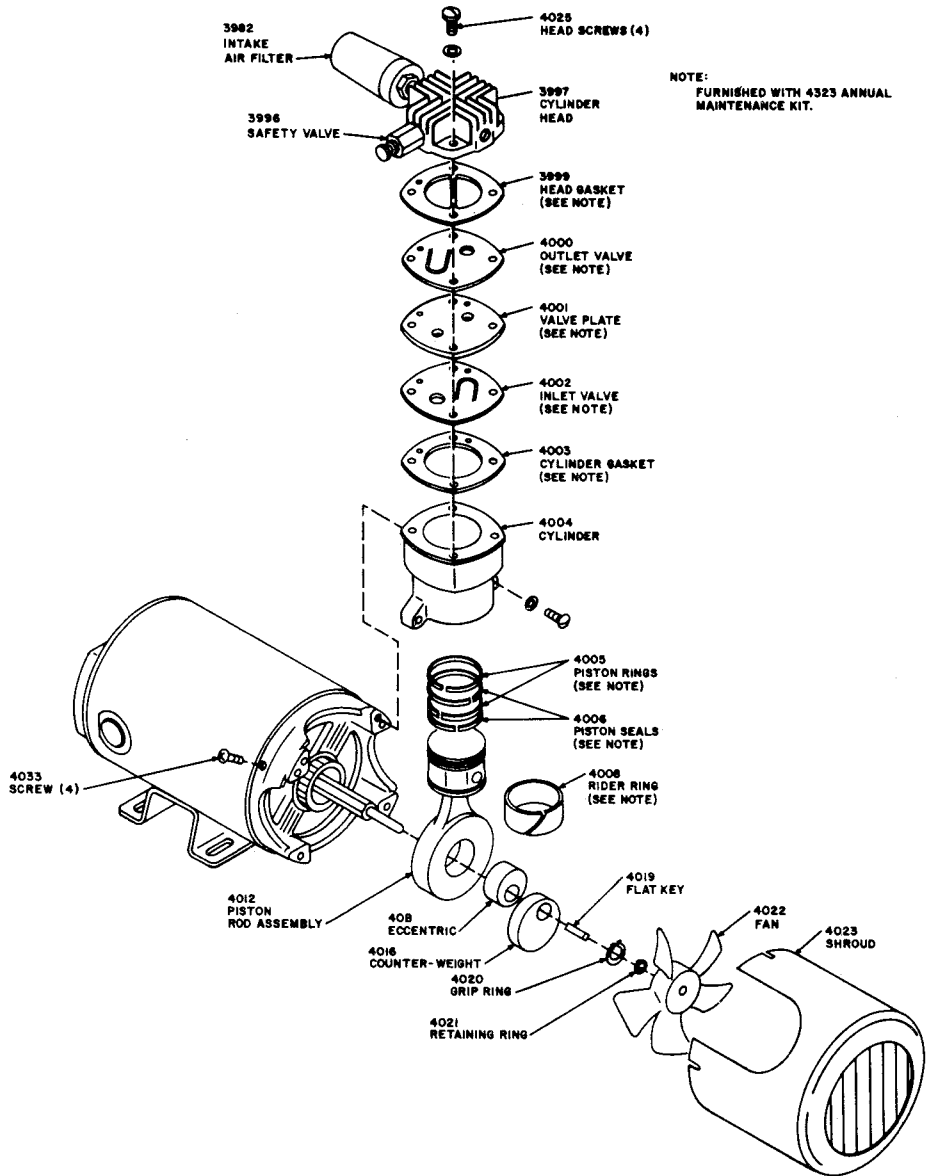

Fig. 4—B-381 Air Compressor (Exploded View)
2.07 The B-381 air compressor (Fig. 4) is oilless and requires no lubrication. However at **annual** intervals replace the piston rings, piston seal, rider ring, head and cylinder gaskets, outlet and inlet valves, and valve plate as follows:
- (3) Remove the four (4) screws which secure the compressor shroud and pull shroud forward and off the compressor housing.
- (4) Remove the four (4) cylinder head screws and lockwashers and lift off the cylinder head, gaskets, valves, and valve plate.
- (5) Remove the two (2) cylinder screws and lockwashers and lift out the cylinder.
- (6) Remove the piston seals, piston rings, and rider ring.
- (7) Clean all components with a nonflammable, nontoxic cleaning solvent.
- (8) Install the new piston seals, piston rings, and rider ring on the piston. (Locate the ring joints approximately opposite each other.)
- (9) Attach cylinder to bracket with the cylinder screws and lock washers. **Tighten screws finger tight.**
- (10) Move the piston to the top dead center position and adjust the cylinder flush with the top of the piston and tighten down on the cylinder screws.
- (11) Install the valves, gaskets, and valve plates by stacking them as shown in Fig. 4.